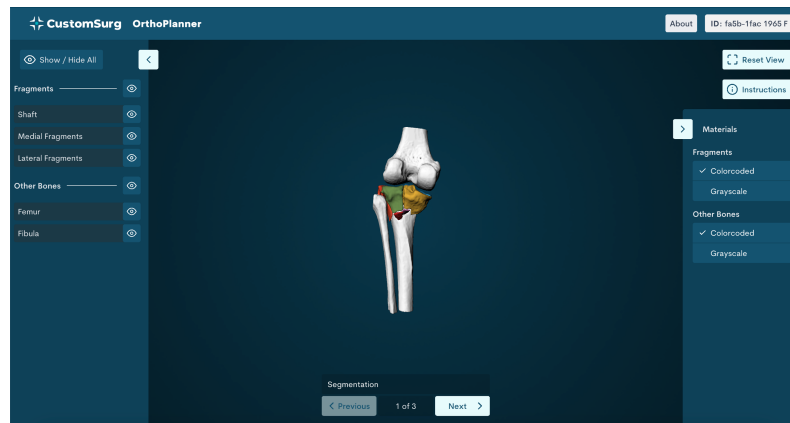

Figure 11 Segmentation View of CustomSurg OrthoPlanner.
- 15.7.6.1 The segmentation view is the first visualization you will see after you confirm the disclaimer. This view shows you a segmentation of your case, including additional relevant bone models, directly matching the CT scan (see Figure 11).